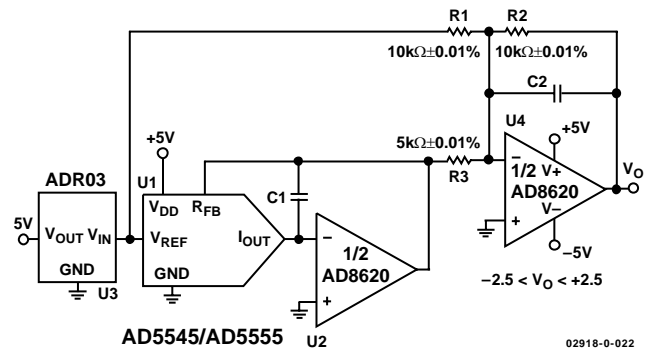

Figure 23. Four-Quadrant Multiplying Application Circuit
In some applications, it may be necessary to generate the full 4-quadrant multiplying capability or a bipolar output swing. This is easily accomplished by using an additional external amplifier, U4, configured as a summing amplifier (see Figure 23). In this circuit, the second amplifier, U4, provides a gain of 2, which increases the output span magnitude to 5 V. Biasing the external amplifier with a 2.5 V offset from the reference voltage results in a full 4-quadrant multiplying circuit. The transfer equation of this circuit shows that both negative and positive output voltages are created because the input data (D) is incremented from code zero ($V_{OUT} = -2.5$ V) to midscale ($V_{OUT} = 0$ V) to full scale ($V_{OUT} = +2.5$ V).